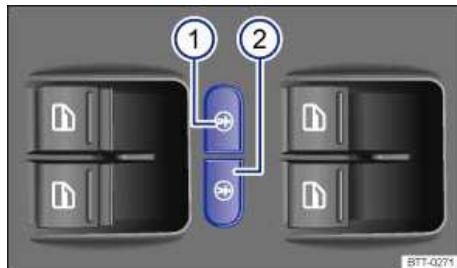

Fig. 29 In the driver door: Buttons for the electric child safety locks.
⇒ fig. 29 (1) and the right button (2) switch the child safety lock on for either the left or right side, respectively.
Activate:	Press the left button or the right button, light comes on ⇒ fig. 29.